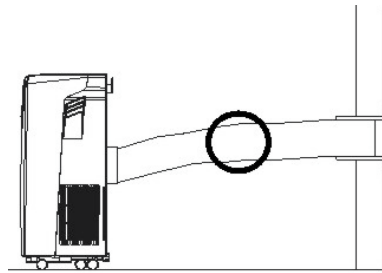

FIG. 9
- Avoid kinks and bends in the exhaust hose. These can cause expelled moist air to accumulate, resulting in overheating and unexpected shut offs (See Fig 9 & 10).